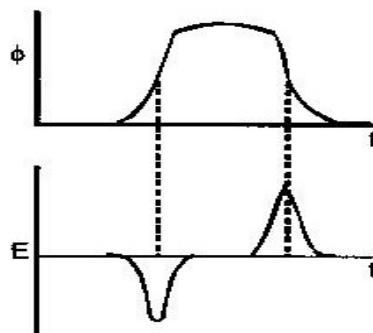
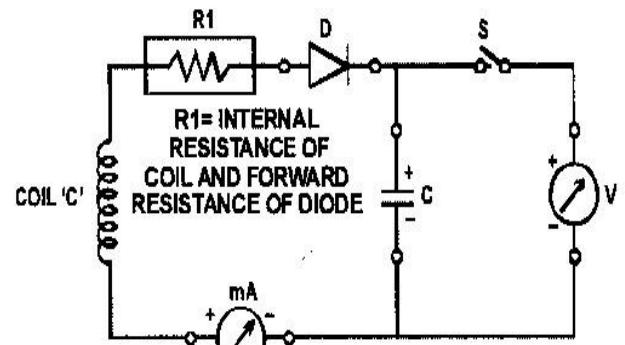
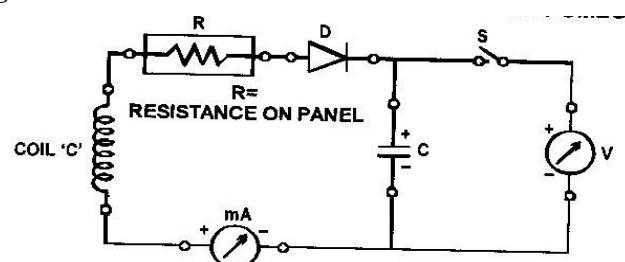

Fig. 3. Time Variation of Magnetic Flux Φ and emf E
Fig. 4. Circuit Diagram for measuring v_{max}
Fig. 6. Circuit Diagram for measuring Charge
The magnetic flux (fig.3.) through the coil (Φ) changes as the magnet NS passes through it also two pulses with opposite signs are
1. Make the circuit as shown in Fig.4. Keep switch S in OFF position. $C \approx 100\mu F$ and $R_1 \approx 500\Omega$. (here R_1 represents the internal resistance of the coil and the forward resistance of the diode D.) At each swing the diode permits the capacitor to gain a charge once. The charging time RC being $50 \approx ms$. and the pulse width τ (Fig.3) being a little smaller, the capacitor reaches the E_0 value in a few swings.
When the diode in the circuit of Fig.6 the capacitor C integrates one pulse of Fig.3 and does not receive the opposite pulse. The charge collected is $(1/R)$ times the $\int E dt$.
- 1 Make the connections as Fig 6. keep RC large compared with width τ by connecting resistance R (given on the panel) in the circuit (Fig 3) which is approximately given by the magnet length divided by V_{max} . With a given release angle θ_0 measure V across the capacitor for N swings taking $n=1, 2, 3\dots$ by turns. (Each time hold the D by hand after n swings are completed and measure V).